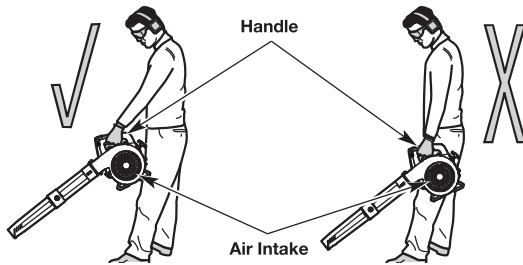

Fig. 12
Stand in the operating position (Fig. 12). Stand up straight. Do not bend over.
To prevent serious personal injury or damage to the unit, DO NOT hold the unit at your side (Fig. 12) The engine may be extremely hot. DO NOT block the air intake.
- Hold the unit in front of, and away from, your body (Fig. 12)